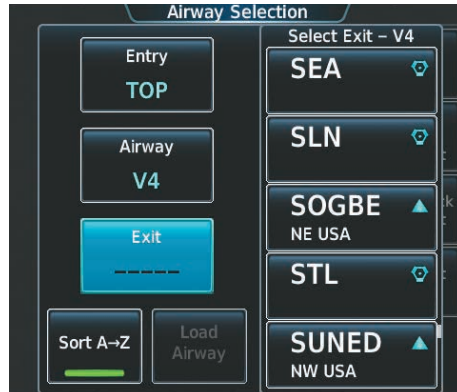

Figure 5-165 List of Available Exits for V4
- h) Touch the **V4** Button to select the airway, and to display the list of available exit points for V4. Scroll the list to find SLN (Figure 5-165).